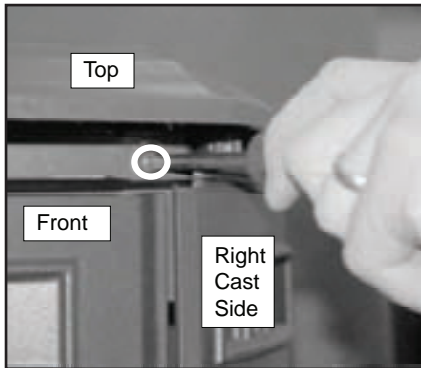

Figure 32.1
- a. Loosen screw on top right corner directly under the cast top, but do not remove. **Figure 32.1.**